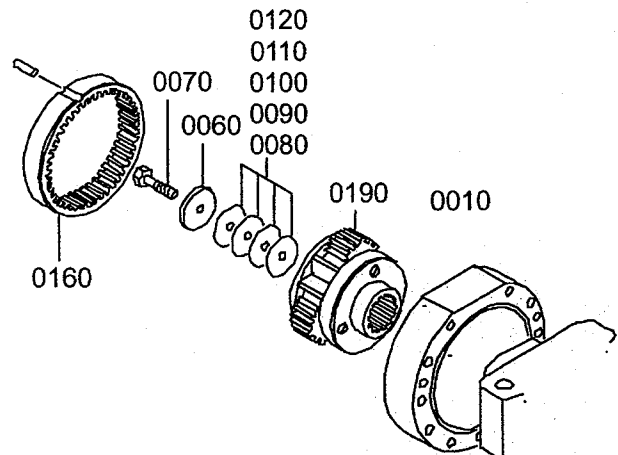

Fig35-32 (1):
1. Fig35-32 (1): Remove the bolt (0070) in the axle tube (0010), then remove the retainer plate (0060) and shims (0080-0120).
2. Fig35-32 (1): Remove the final reduction gear assembly (planetary carrier) (0190).
3. Fig35-32 (2): Remove the axle shaft (0030) out of the axle tube (0010) by tapping the end of the axle shaft with a soft-faced hammer.